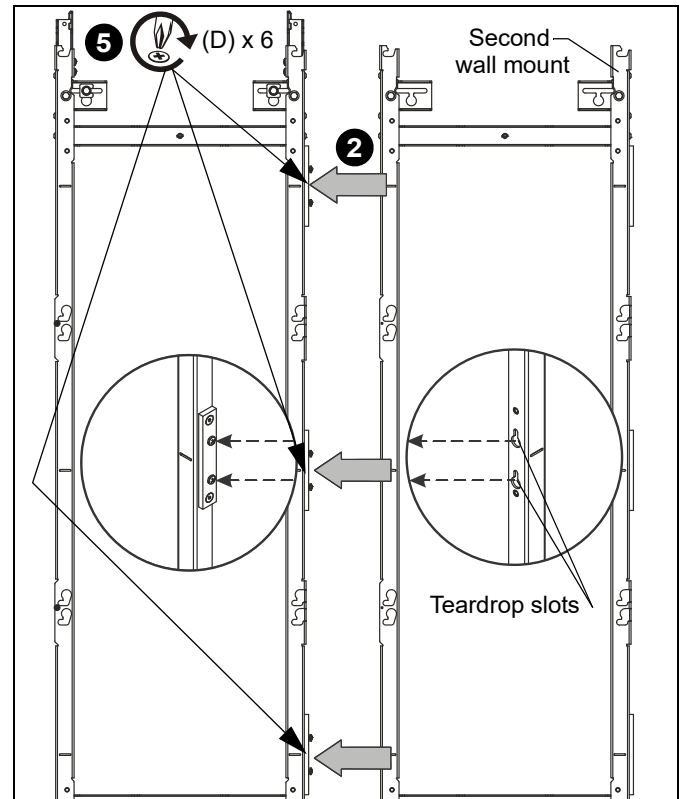

Figure 12
2. Hang the second mount (using teardrop slots on the left side) onto the fasteners installed into the mount already attached to the wall, and snug up the fasteners. (See Figure 12)
5. Tighten all fasteners (where the second mount is hung on the first mount) to fasten two mounts together. (See Figure 12)